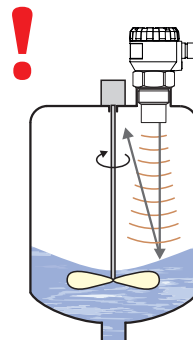

Fig. 13: Intensely stirred surface
- Rotating **mixer blades** can cause that the surface is stirred, which results in false reflections of the ultrasonic signal from the surface level and unreliable operation of the level meter (Fig. 13).